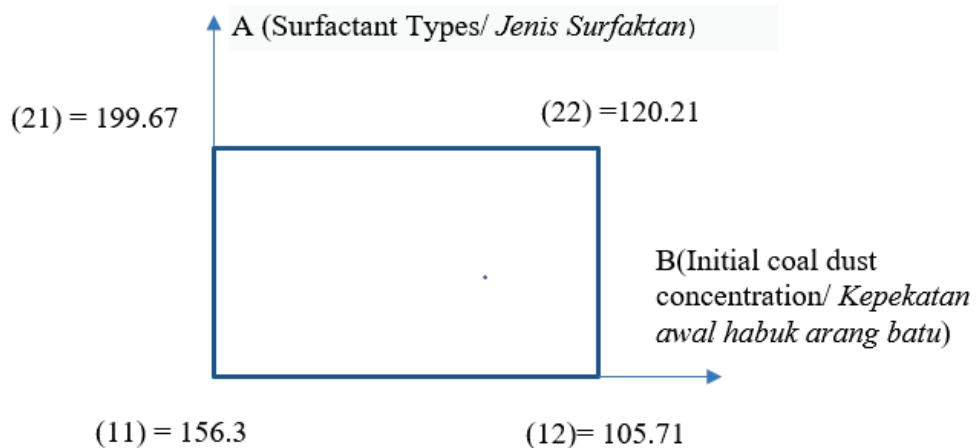

Figure 5.1: Geometry Design for Suppression Effectiveness
- (5). An engineer is identifying a surfactant that can reduce the coal dust effectively. The problem of the research was to evaluate the effects of types of surfactant and initial coal dust concentration on the suppression effectiveness (Y) as a response. The two inputs of interest are the Sodium Dodecyl Sulfate (SDS) surfactant with (1% and 2%) and the initial coal dust concentration (13.35 and 101.62). All 2^2 experiments were conducted in an air-conditioned laboratory, which is kept at a constant temperature and the constant solution level is kept between 0.05-0.1 wt.%. The Geometry Design for 2^2 experiments is given in Figure 5.1.